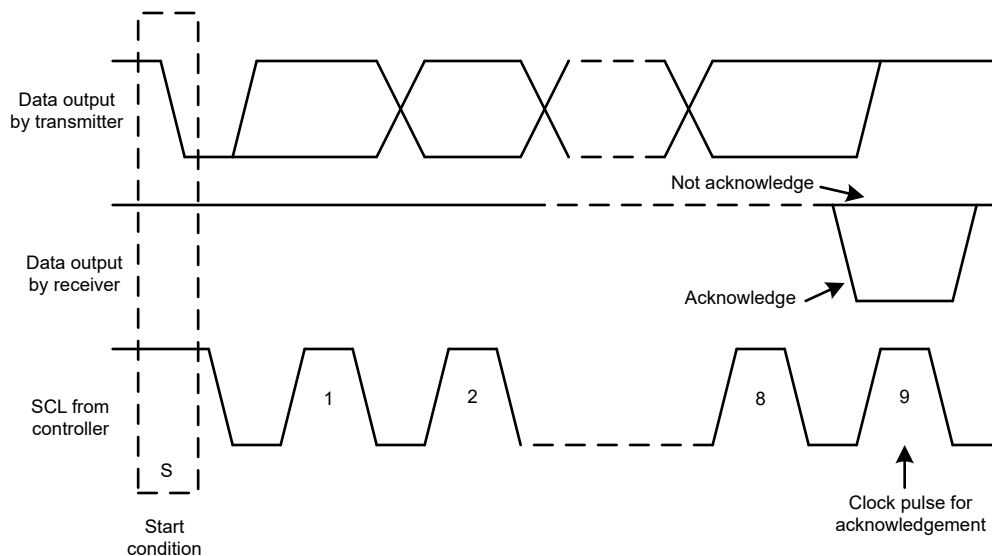
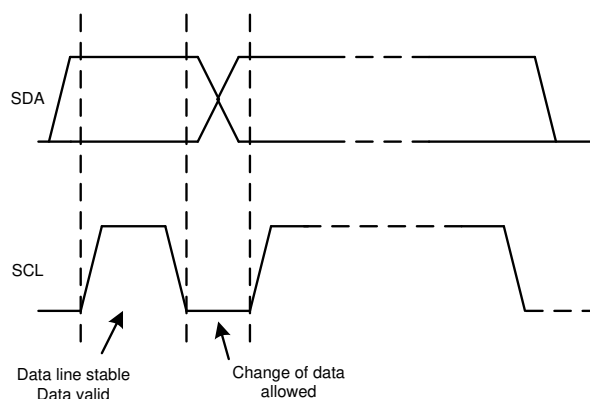

Figure 6-19. Acknowledge and Not Acknowledge on the I²C Bus
Figure 6-21. Bit Transfer on the I²C Bus
Other than specific timing signals, the I²C interface works with serial bytes. At the end of each byte, a ninth clock cycle generates and detects an acknowledge signal. An acknowledge is when the SDA line is pulled low during the high period of the ninth clock cycle. Figure 6-19 depicts a not-acknowledge, when the SDA line is left high during the high period of the ninth clock cycle.
2. The controller then generates the SCL pulses, and transmits the 7-bit address and the read/write direction bit (R/\bar{W}) on the SDA line. During all transmissions, the controller makes sure that data are valid. Figure 6-21 shows that a valid data condition requires the SDA line to be stable during the entire high period of the clock pulse. All devices recognize the address sent by the controller and compare the address to the respective internal fixed address. Only the target device with a matching address generates an acknowledge by pulling the SDA line low during the entire high period of the 9th SCL cycle (see also Figure 6-19). When the controller detects this acknowledge, the communication link with a target has been established.